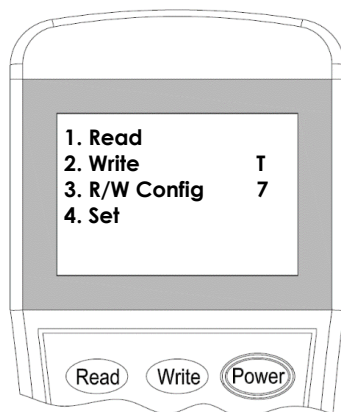
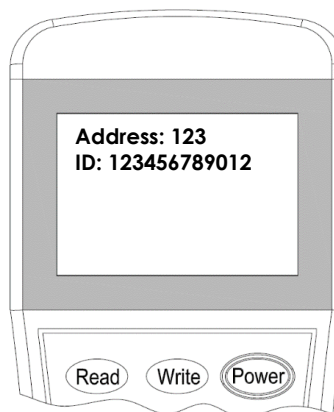

Figure 6
Figure 7
2. Switch-on the programmer, then press button **"Read"** or **"1"** to enter to Read mode (Figure 6). The programmer will display the configuration after few seconds. (Figure 7).